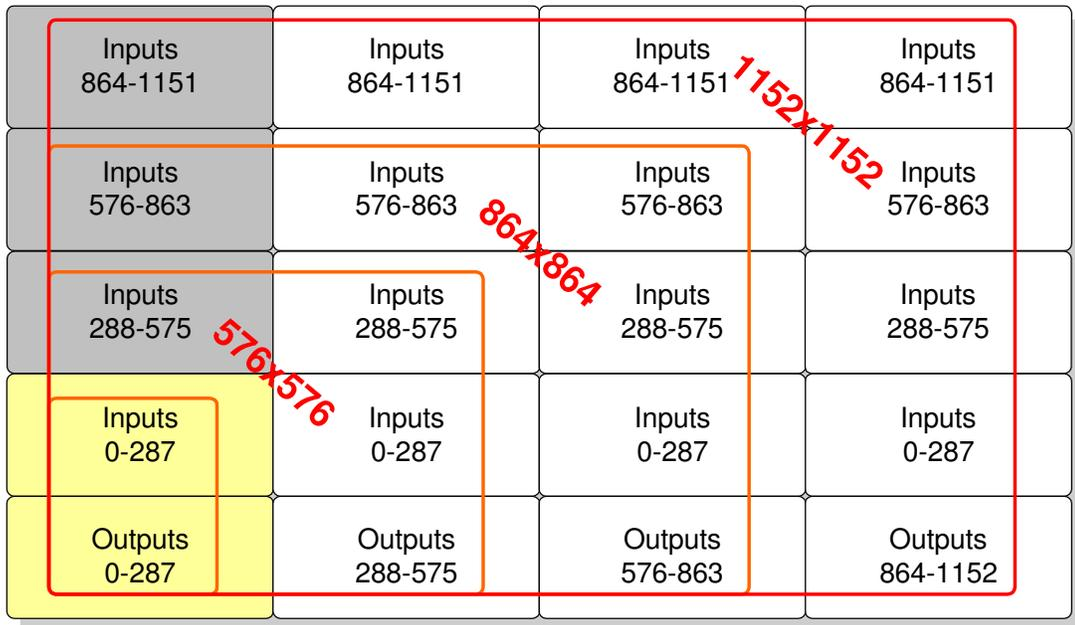

FIGURE D-2.
3. Unpack the Field Wiring Kit and connect the required sources or destinations to each of the tension clamp connectors. Refer to Figure D-2, on the following page for wiring each tension clamp connector.